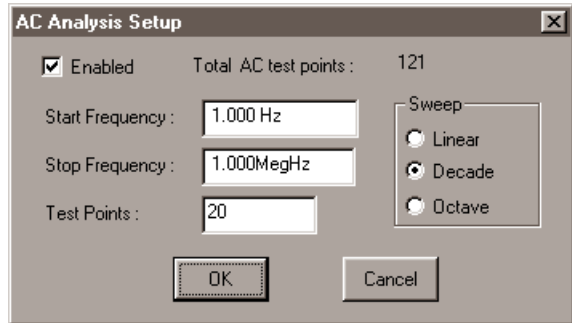
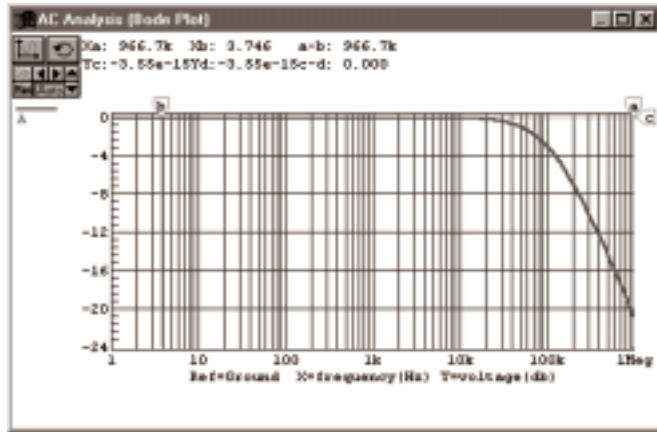

Figure 6.10. Use this dialog box to set up an AC Analysis (AC sweep).
Figure 6.11. An AC Analysis waveform.
- 3 Click the **AC Sweep** button to display the dialog box pictured in Figure 6.10.
The waveform in Figure 6.11 was generated by simulating the ANALOG.CKT circuit using the values shown in Figure 6.10. Notice that the x axis represents frequency in a log scale. The waveform represents the magnitude of the circuit's output voltage in decibels (db). See *Using the Analysis Windows* earlier in this chapter for more information about manipulating the waveforms.